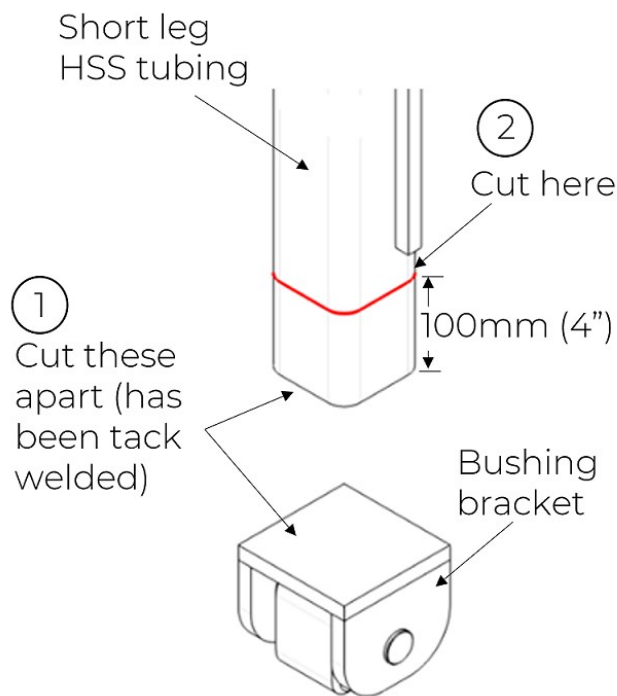

Figure 6: Removing excess short leg HSS tubing (ZX350/350G only)
3. **For ZX350/350G excavator models only:** Cut the bushing bracket off below the upper short leg HSS tubing, where it was tack welded at the factory, as shown in Figure 6 below.
4. **For ZX350/350G excavator models only:** Cut off the bottom 100mm (4") of the short leg HSS tubing, as shown in Figure 6 above.